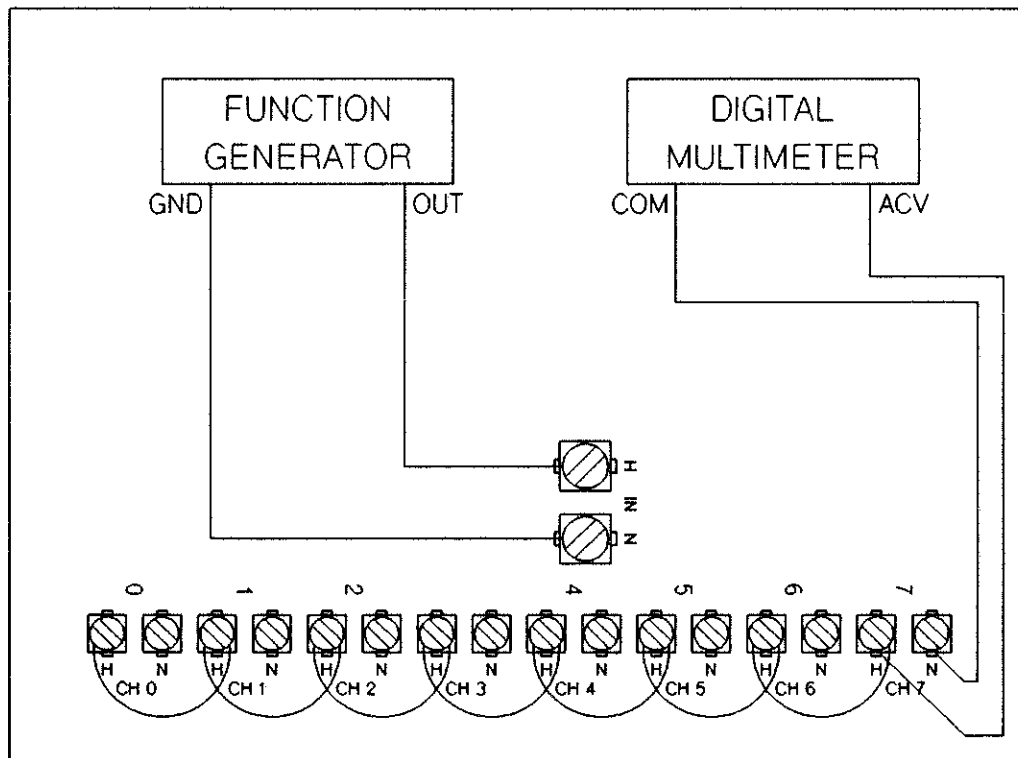

Figure 17-5 HP 44729A Channel Functional Test
2. Set the function generator to output a 14.14 V peak (28.28 V peak-to-peak) sine wave at a 60 Hz rate. Connect the function generator output to the H and N AC input terminals on the test fixture. The connections are shown in Figure 17-5.
3. Set the multimeter to measure AC Volts (RMS). Connect the multimeter DCV input to the shorted HIGH channel connections. Connect the multimeter COM input to any channel neutral connection, as shown in Figure 17-5.